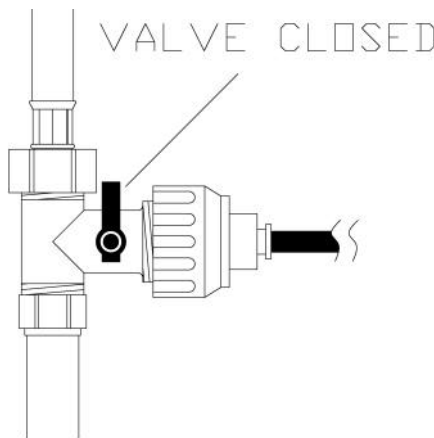

Fig 1.
2. Turn the lever on the isolator (A) to the closed position (fig 1.) Allow the mixertap to run until no water flow through it. Note: for customers with the previous version of the filter system, close the water off by turning the handwheel on the saddle valve.
3. Whilst holding the filter head (B) turn the filter cartridge (C) 90° then pull it away from the filter head (B). Note if the filter (C) is tight a spanner can be put on to loosen it.